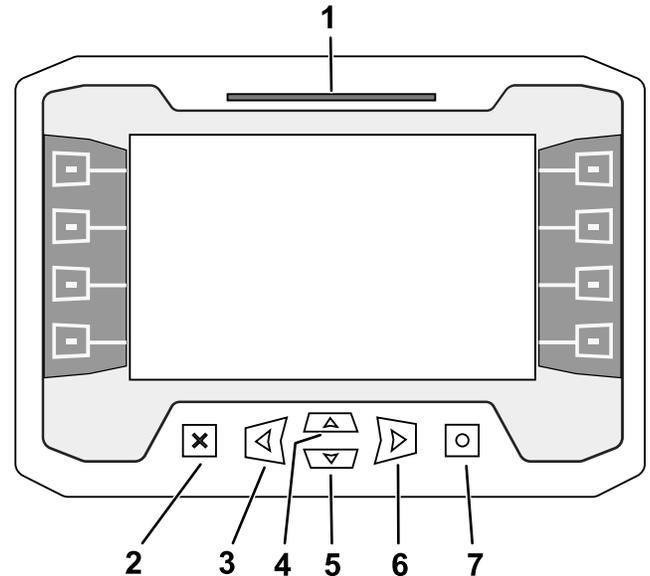

Figure 2
Use the OK (O) button on the display (Figure 2) to set the rotary speed.